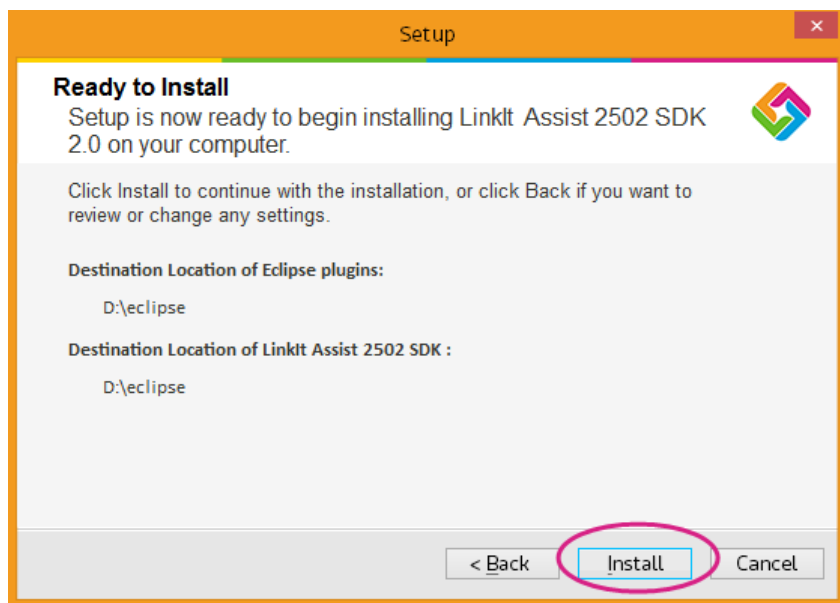

Figure 10 The Ready to Install page of the setup wizard
- 8) In **Ready to Install**, Figure 10, review the selected file locations and if they are OK click **Install**.